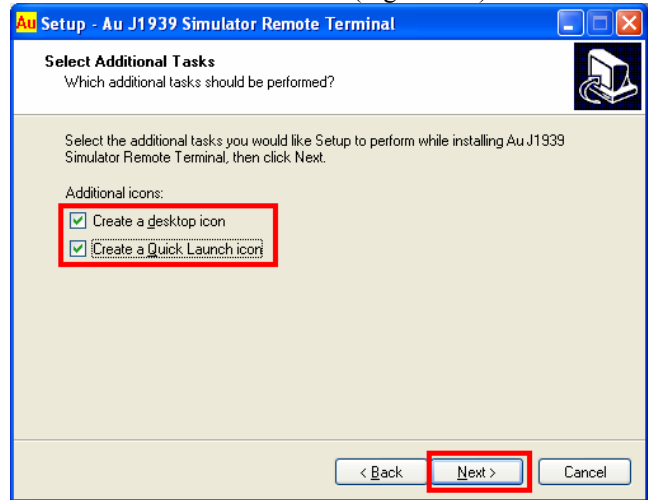

Figure A-7
7. “Select Additional Tasks” window pop up, check both “Create a desktop icon, and Create a Quick Launch icon”, click “Next” to continue (Figure A-7).